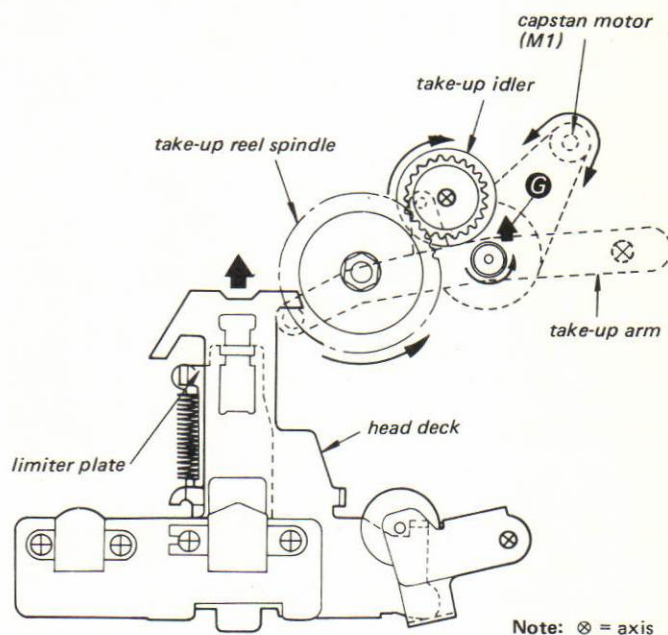

Fig. 5
- By the movement of the head deck, the take-up arm moves in direction **G** (See Fig. 5). Thus the rotation of the capstan motor is transmitted to the take-up reel spindle through the take-up idler.